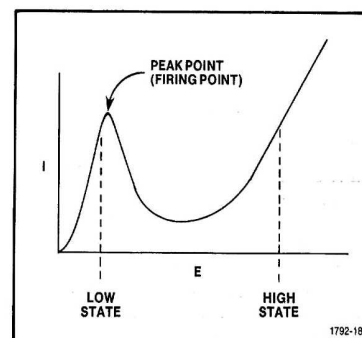

Figure 3-4. Tunnel Diode Voltage-Current Curve.
**Time Slot 1.** All current is removed from the tunnel diode to reset it to its low state. The low state is on the low voltage side of the peak current point on the voltage-current curve of the tunnel diode (Fig. 3-4).